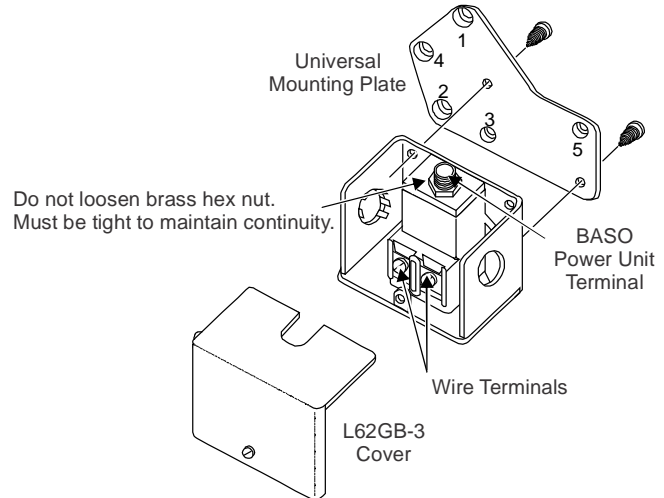

Figure 3: L62GB-3 Mounting
7. Attach the universal mounting plate to the device when required (see Figure 3). Secure the mounting plate to the switch case with the sheet metal screws provided. The mounting plate is not required for exact replacements.